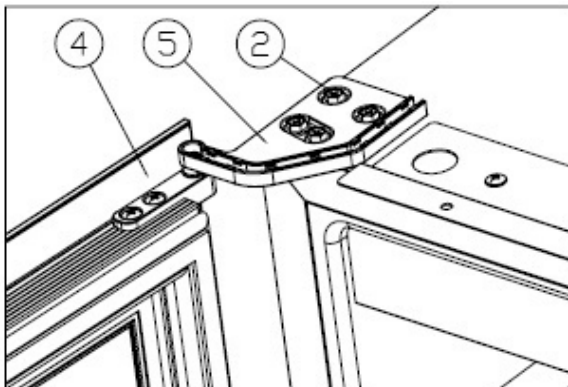

Figure 6
- ✧ Rotate the door ④ 180 degrees, place it on the lower hinge pin at the left side. Place the right lower hinge on the upper left side, insert hinge pin into the door⑤, tighten the M5*16 screws②.[Figure 6] Reversing the door is finished.